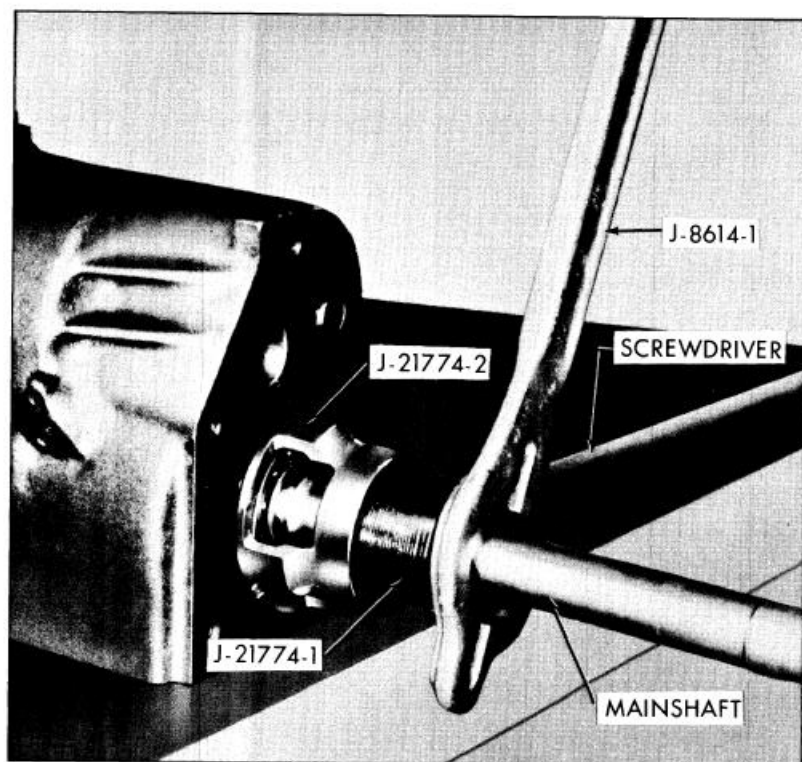

Figure 4-9—Removing Rear Bearing
- a. Slide Tool J-21774-1 over bearing and install snap ring in groove in bearing. See Figure 4-9.